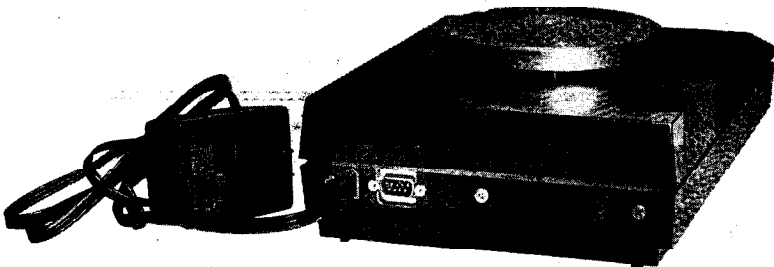

FIGURE 4
14. Reinstall the COVER, using the same two (2) SCREWS and WASHERS.
15. Return the PLATFORM and PLATFORM SUPPORT. The completed assembly is shown in Figure 4.